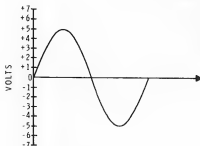

Figure 2-100
3. The waveform shown in Figure 2-100 is a:
4. What is the peak voltage of the waveform in Figure 2-100?
5. What is the rms voltage of the waveform in Figure 2-100?
6. What is the peak-to-peak voltage of the waveform in Figure 2-100?